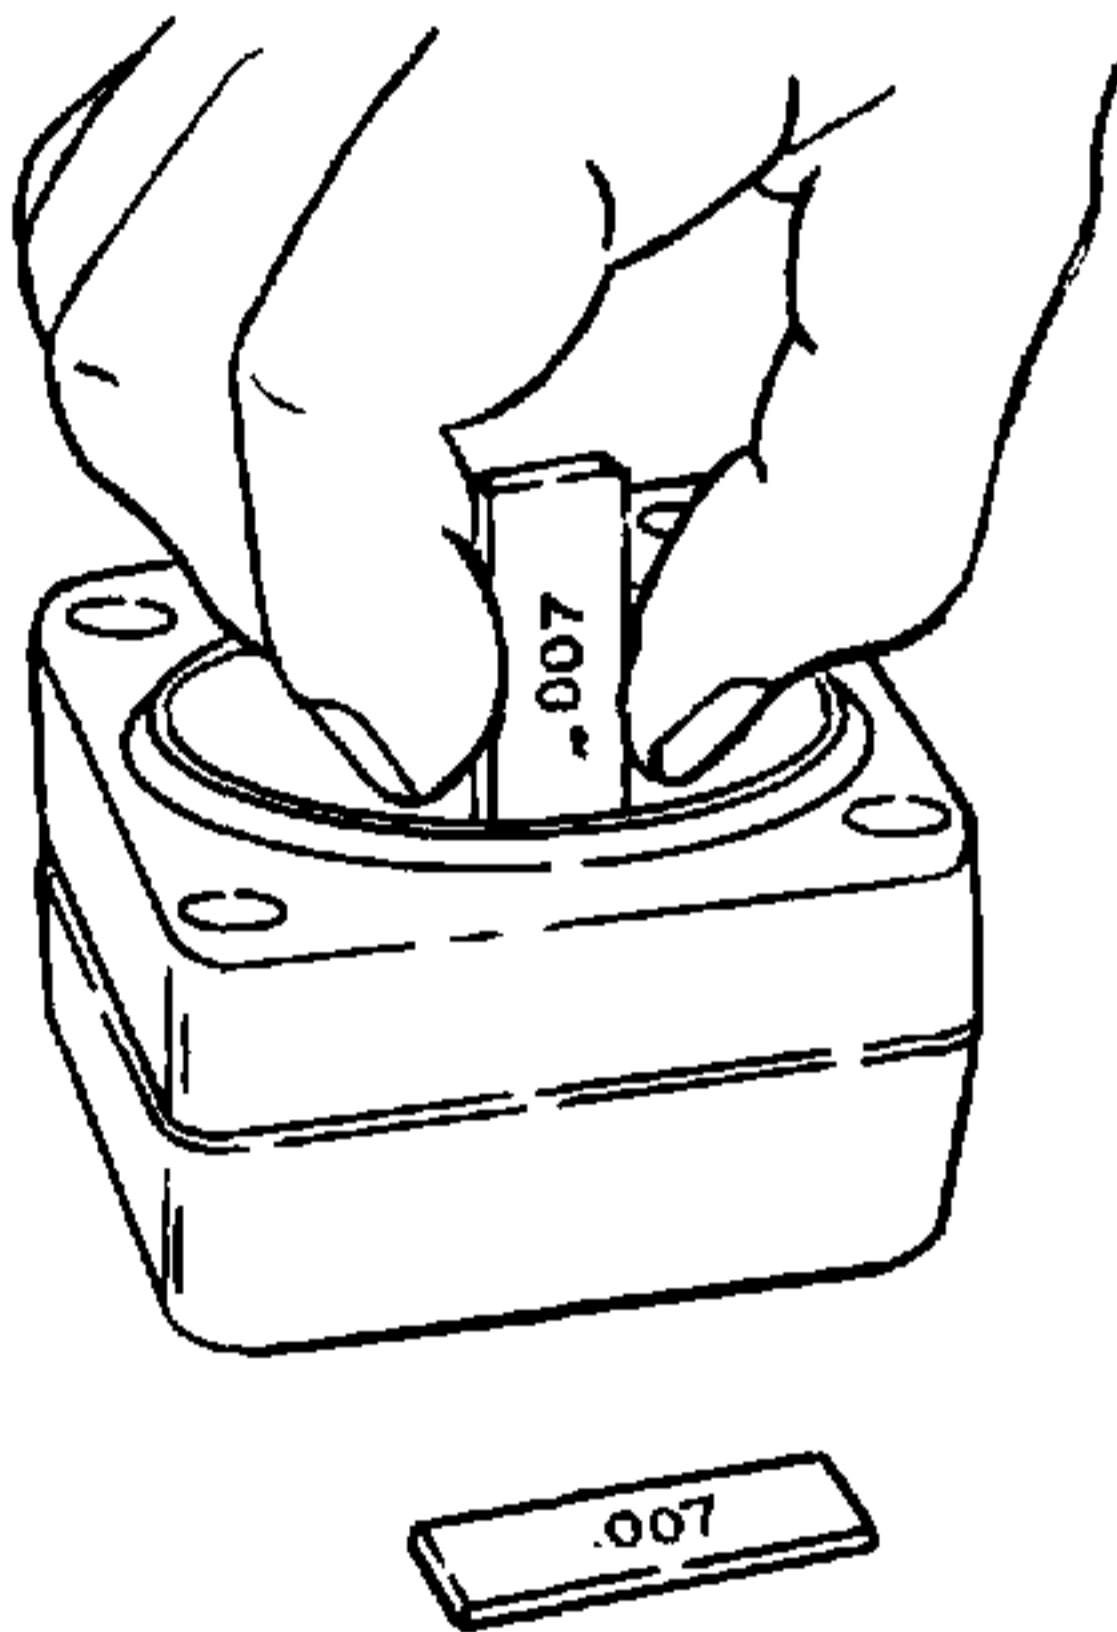

Figure 4-63. Allgning Drive Plate With Metering Ring.
17. Place the metering ring (39) on a hard flat surface. Place the assembled metering package into the metering ring with the commutator cover (18) down, such that the drive plate (24) is partially out of the metering ring. (A suitable wood block under the metering package will hold it in this position.) See Figure 4-63.